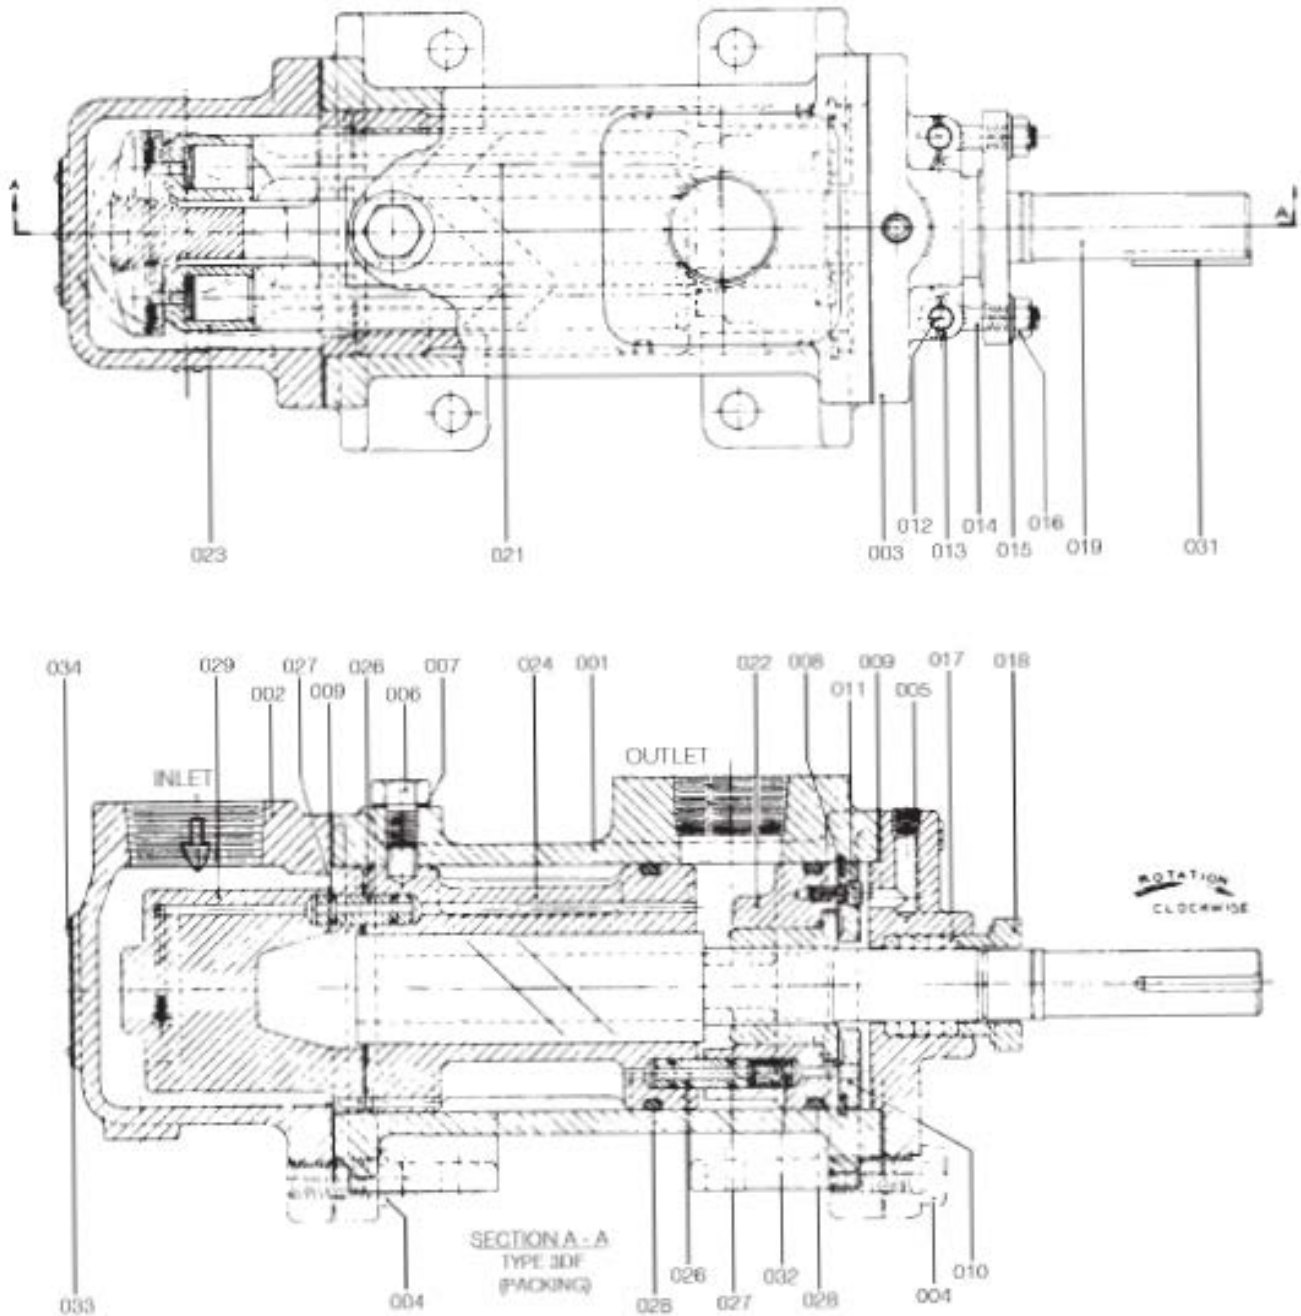
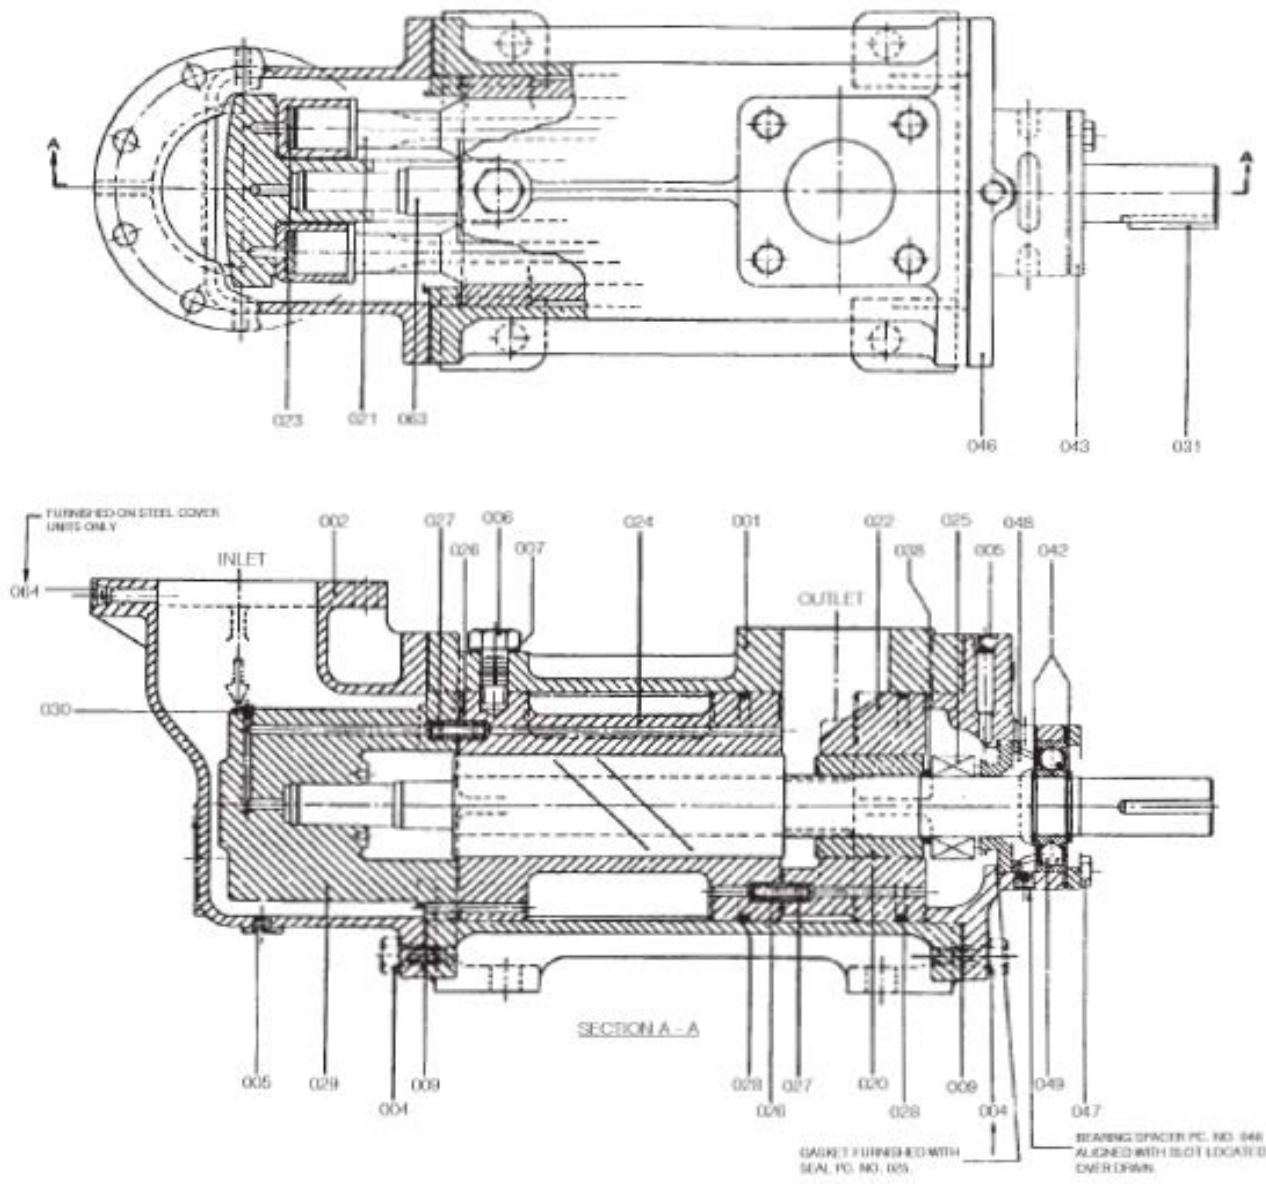

Figure 4. A3DF-106 & 118
Figure 8. A3D-350 & 400
Disassembly Procedures (Figures 4, 5 and 6)
NOTE: Refer to pump assembly drawings, Figures 4 through 6, during pump disassembly. Disassembly procedures are identical for Figures 4 through 6 unless specifically noted.
11. Remove cap screws (011) and retainer plate (010).
12. **(Figure 4)** Remove retaining ring (008).
13. Remove power rotor (019 or 063). Removal of power rotor (019 or 063) will also remove balance piston housing (022) with O-ring (028) and oil balance tube (026).
14. Remove balance piston housing (022) from power rotor (019 or 063). Remove O-ring (028) and oil balance tube (026) from balance piston housing (022).
15. **(Figure 4)** Remove O-ring (027) from oil balance tube (026), and remove relief valve (032) from balance piston housing (022).
16. Remove stop pin (006) with Dyna seal (007) from case (001).
17. Remove rotor housing (024) with O-ring (028) and oil balance tube (026) from suction end of pump case (001).
18. Remove O-ring (028) and oil balance tube (026) from rotor housing (024). Remove O-rings (027) from grooves of oil balance tube (026).
Assembly Procedures (Figures 4 through 6)
NOTE: Prior to assembly of pump, all parts should be cleaned and inspected for nicks and burrs. Replace all worn or damaged parts. Imo Pump Division recommends automatic replacement of O-rings (027 and 028), gaskets (009), Dyna seal (007) and packing (017) when these parts are disturbed from their previously installed position. Refer to pump assembly drawings, Figures 8, 9 and 10, and List of Material, Table 3, during pump assembly. Coat all parts with light lubricating oil to assist in assembly. Assembly procedures for Figures 8 through 10 are identical unless specifically noted.
1. Install O-ring (028) in groove of rotor housing (024), and install rotor housing (024) in suction end of pump case (001), ensuring that bore in rotor housing (024) is aligned with stop pin (006) bore of pump case (001).
2. Install stop pin (006) with Dyna seal (007) in pump case (001) and rotor housing (024).
3. Install O-rings (027) in grooves of oil balance tube (026) and install oil balance tube (026) in bore of suction end of rotor housing (024).
4. Install O-ring (028) in groove of balance piston housing (022), and install balance piston housing (022) on power rotor (019 or 063) shaft.
5. **(Figure 4)** Install relief valve (032) in balance piston housing (022). Install O-rings (027) in grooves of oil balance tube (026).
6. Install oil balance tube (026) in bore of balance piston housing (022).
7. Install power rotor (019 or 063) assembly in bore case (001), ensuring that oil balance tube (026) engages bore of rotor housing (024).
8. **(Figure 4)** Install retaining ring (008) in groove of case (001).
9. Install retainer plate (010) using capscrews (011).